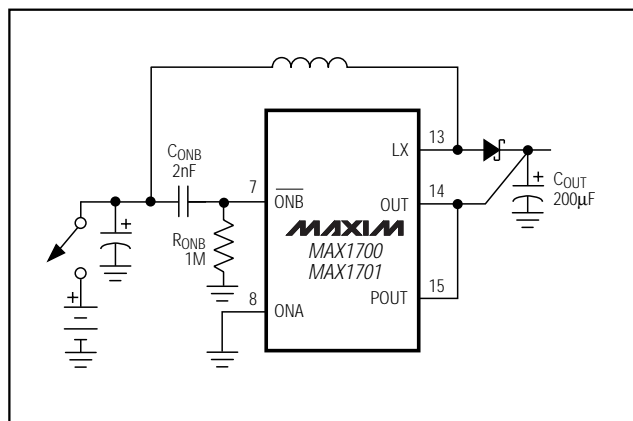

Figure 12. Connecting C_{ONB} and R_{ONB} when Switch or Battery-Contact Bounce Is Anticipated
1) Connect a capacitor (C_{ONB}) from \overline{ONB} to V_{IN} , a $1M\Omega$ resistor (R_{ONB}) from \overline{ONB} to GND, and tie ONA to GND (Figure 12). This RC network differentiates fast input edges at V_{IN} and momentarily holds the IC off until V_{IN} settles. The appropriate value of C_{ONB} is 10^{-5} times the total output filter capacitance (C_{OUT}), so a C_{OUT} of $200\mu F$ results in $C_{ONB} = 2nF$.